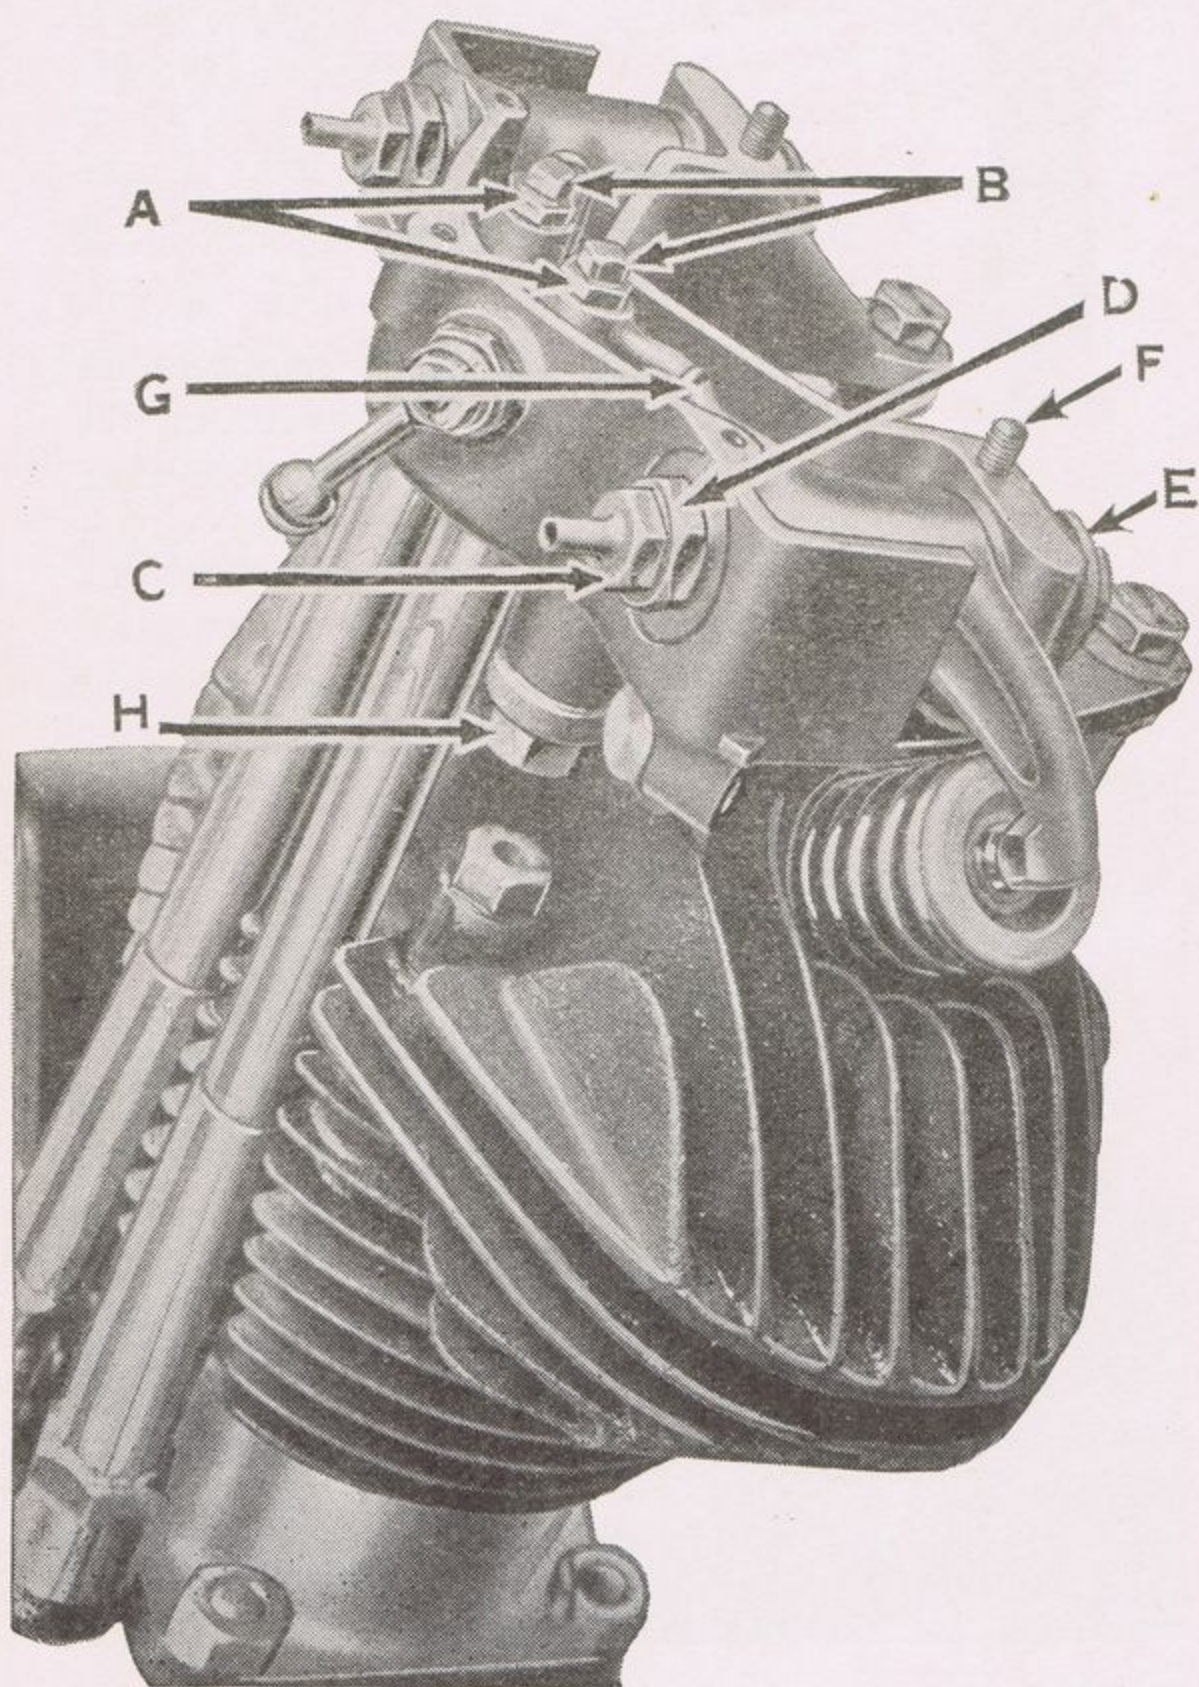

Fig. 9.
**ADJUSTMENT OF ROCKERS** (Fig. 9). Release locknut *C* and turn the adjusting nut *D* in a clockwise direction until it just becomes tight. Slacken back about one-third of a turn and tighten locknut *C*. Hexagon *E* should not be touched unless it is desired to remove rocker spindle when locking stud *F* must also be released.